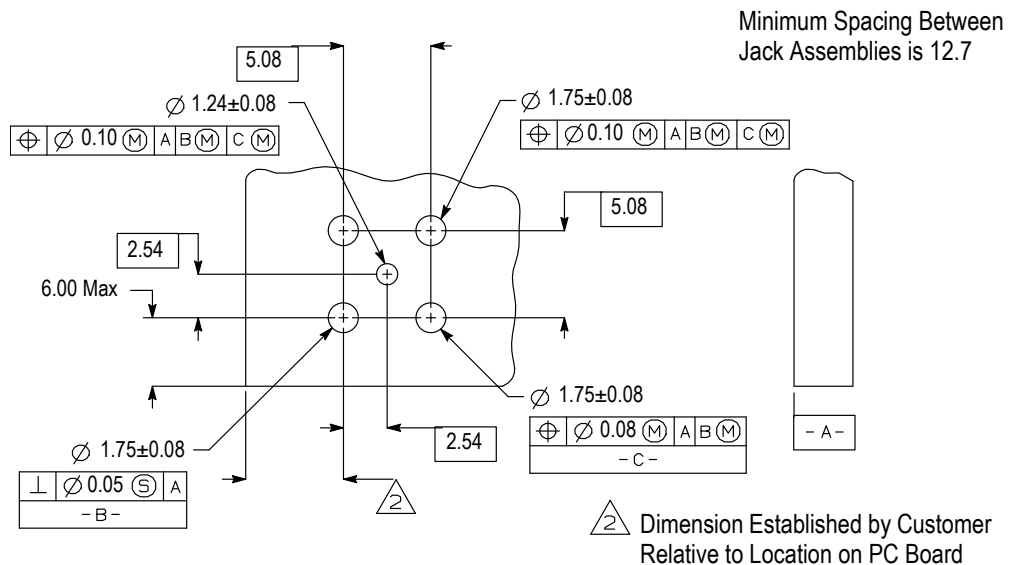

Figure 2
2. Design the pc board layout using the dimensions provided in Figure 2.